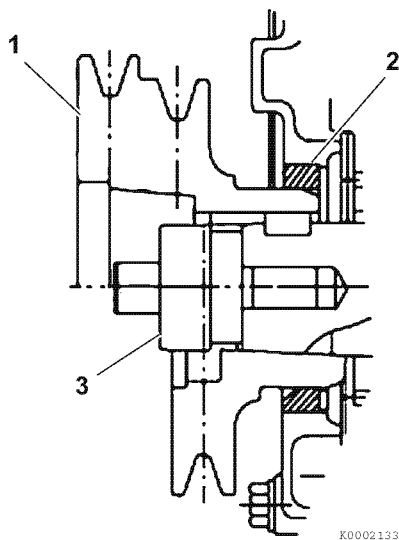

**Figure 6-149**
1. Apply a continuous bead of ThreeBond Liquid Gasket No. 1212, YANMAR Part No. 977770-01212 to the mounting area of the gear case cover (Figure 6-149, (1)). Be sure to circle the bolt holes.